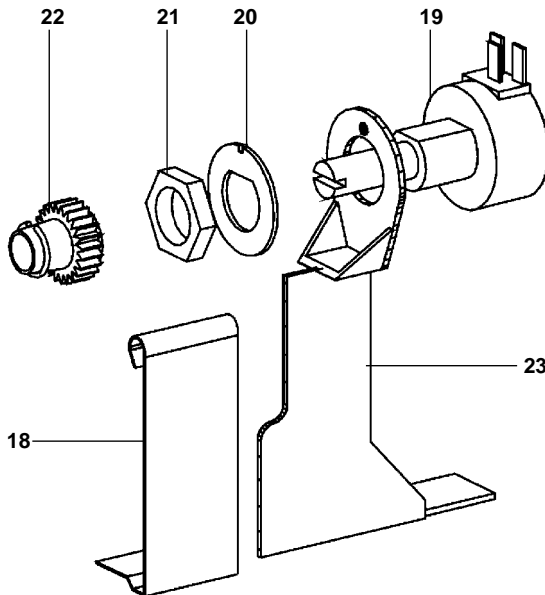

Fig. 12
- Insert the potentiometer (19) in to the actuator pre-moulded bracket (23).
- Replace the locating washer (20) and firmly secure the nut (21).
- Slide the pinion kit (22) onto the potentiometer ensuring the pinion is engaged into the teeth of the switching plate.
- Then insert the spring (18) to the housing bracket as shown in Fig. 12.